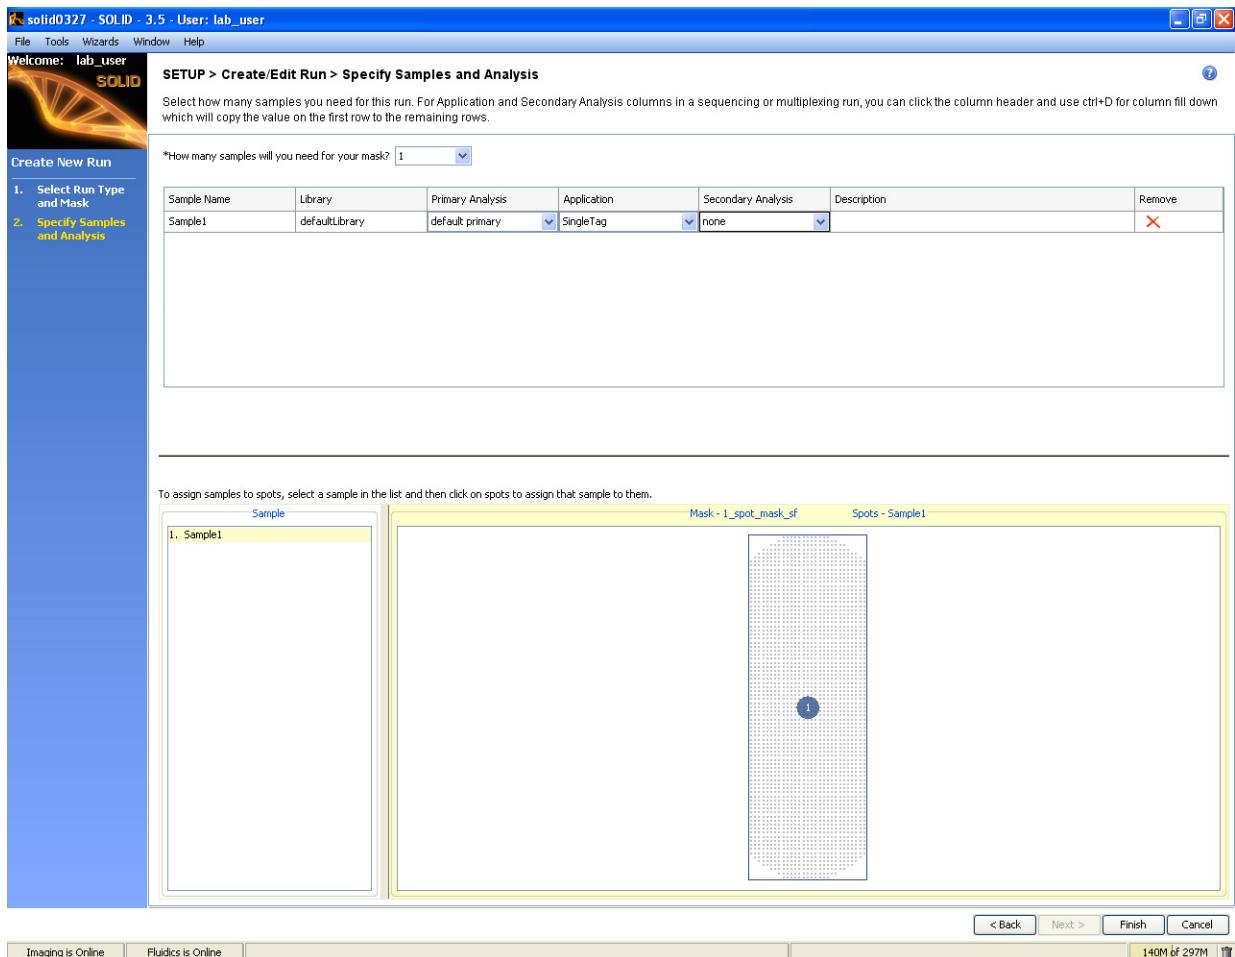

Figure 48 Complete the information in the Specify Samples and Analysis pane.
3. Complete the information in the Specify Samples and Analysis pane (see Figure 48 on page 55):